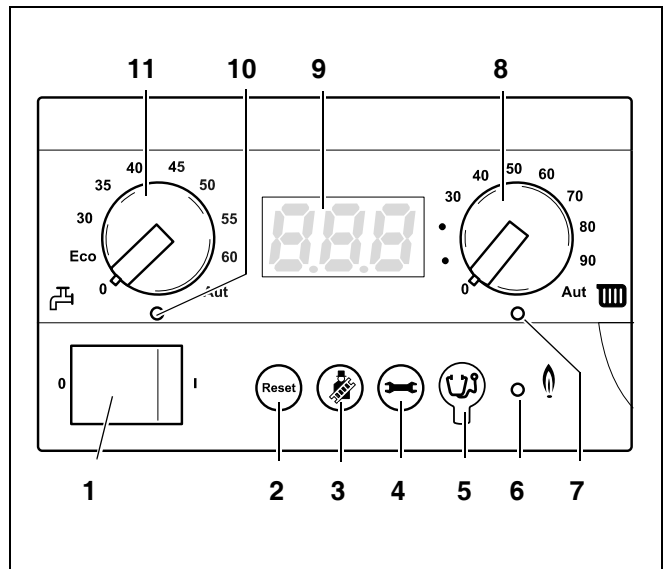

fig. 5 BC10 basic controller
The "Chimney sweep" button (fig. 5, **item 3**) is used to put the boiler into manual operation mode, e.g. if the heating system control (e.g. room controller) is defective.
The "Service" button (fig. 5, **item 4**) is used to display the current CH (boiler) flow temperature, the current working pressure etc. Also see section 6.1.1, page 18.
The heating engineer can connect a Service Tool here (fig. 5, **item 5**) for diagnostic purposes when servicing.
The "Burner" (On/Off) LED (fig. 5, **item 6**) lights up when the burner of the boiler is switched on and it is extinguished when the burner is switched off.
The "Heat demand" LED (fig. 5, **item 7**) lights up when the control system has made a heat demand and it is extinguished when this heat demand is no longer required.